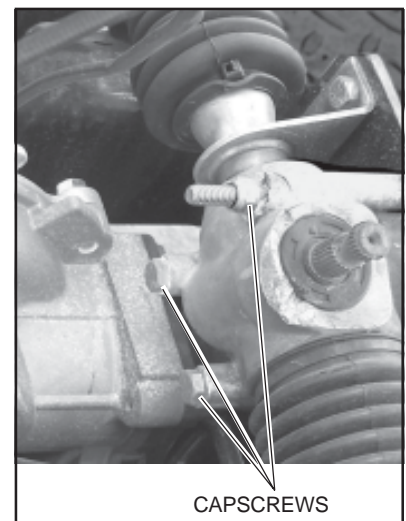

Figure 13
6. Install three capscrews and hex nuts securing the rack and pinion assembly to the fire wall (Figure 13). Tighten securely.